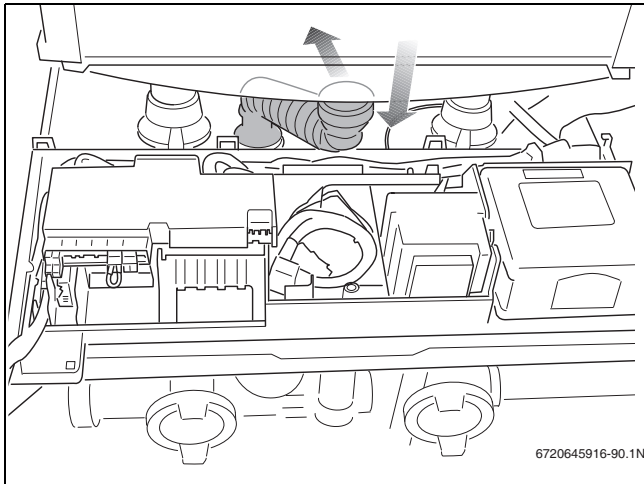

Fig. 92 Removing the condensate trap hose
- ▶ Disconnect the flexible condensate drain hose and bend it backwards (→ fig. 92).